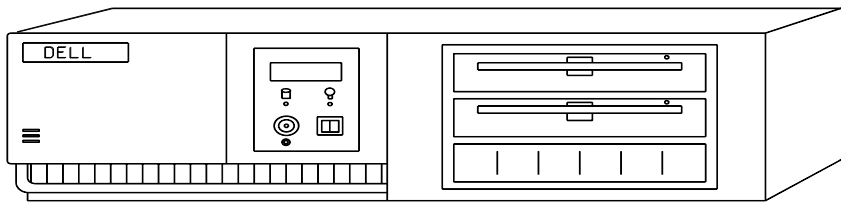

Figure 4-3 System Computer Front Panel
3. Refer to Figure 4-3. Turn on the system computer power switch whose location is documented in the computer user's guide.